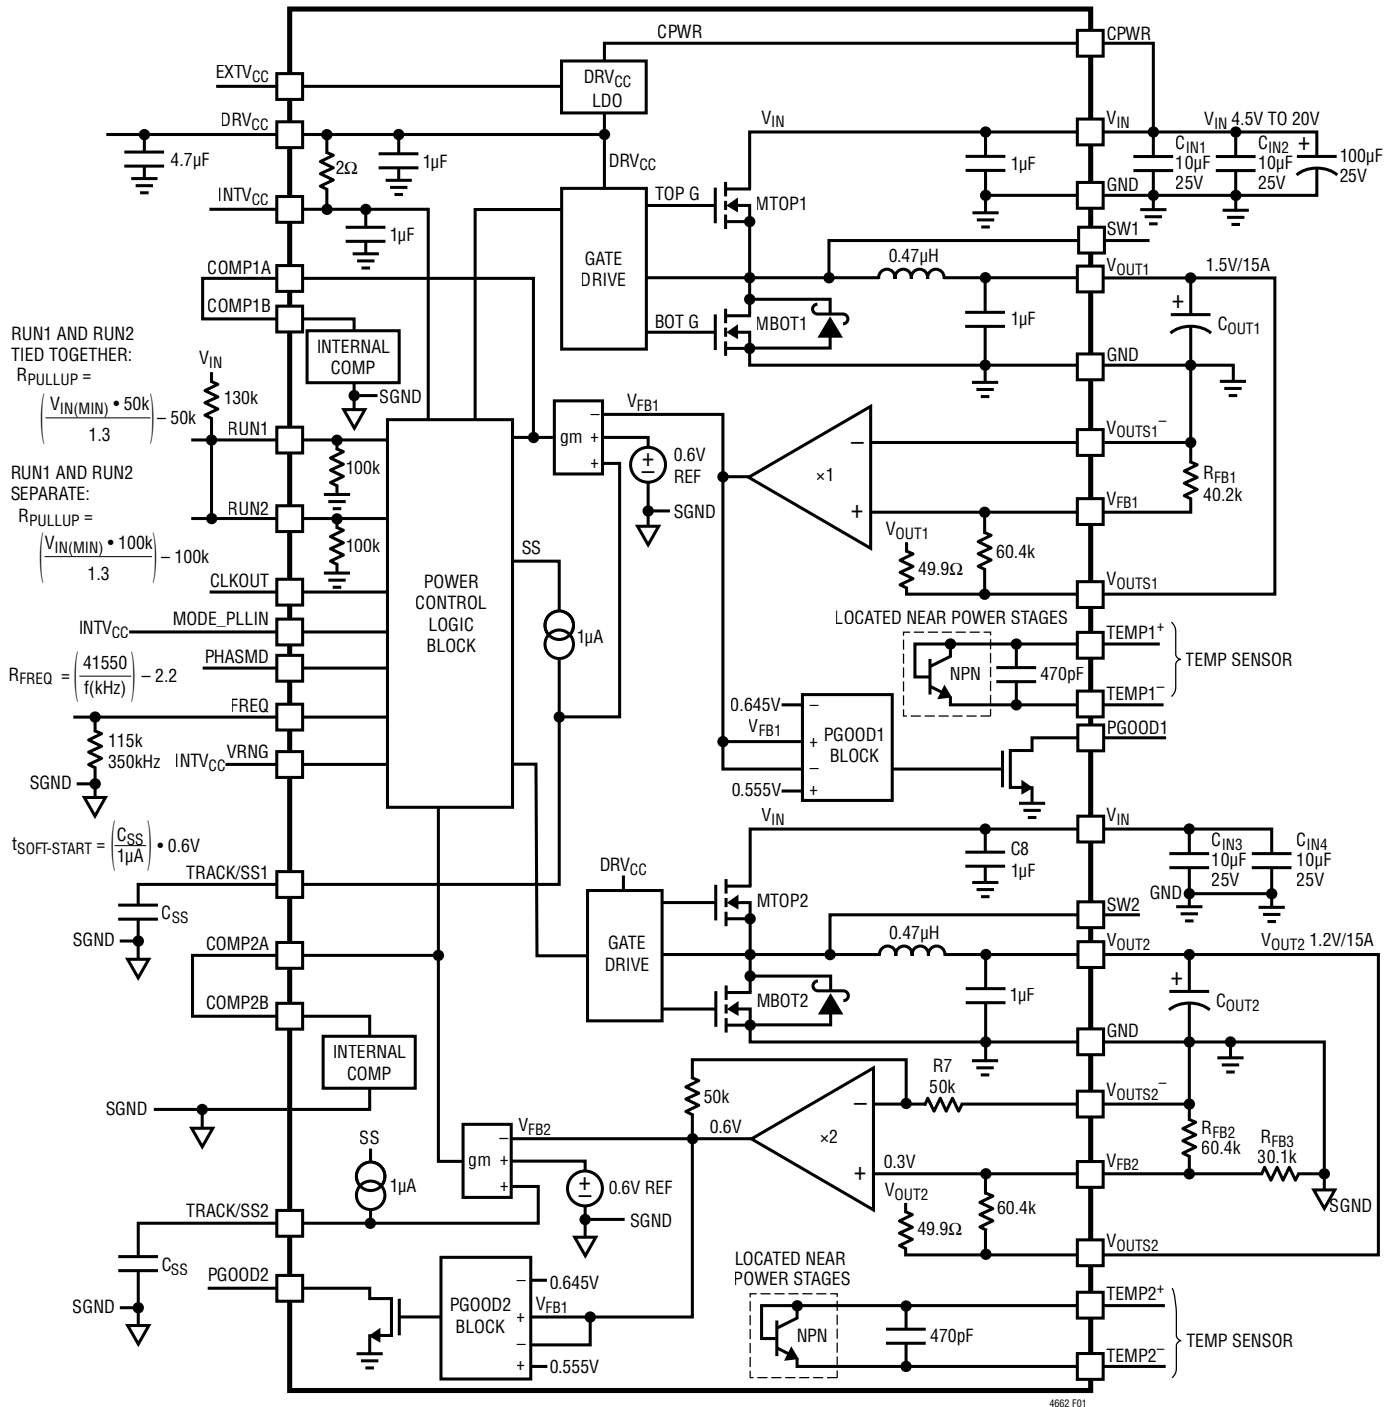

Figure 1. Simplified LTM4662 Block Diagram
**VFB1 (G4):** This pin is the + input to a unity gain differential amplifier. This pin is connected to VOUTS1 with a 60.4k precision resistor internal. Different output voltages can be programmed with an additional resistor between VFB1 and VOUTS1 pins. The differential amplifier is feeding back the divided down output voltage from a remote sense divider network to compare to the internal 0.6V reference. In 2-phase single output operation, tie the VFB1 pin to INTVCC. See Figure 1 and Applications Information section for details.
**VFB2 (E4):** This pin is the + input to a non-inverting gain of two amplifier utilizing three resistors in the feedback network to develop a remote sense divider network. This pin is connected to VOUTS2 with an internal 60.4k precision resistor. The VOUT2 voltage is divided down to 0.3V then gained back up to 0.6V to compare with the internal 0.6V reference. This technique provides for equivalent remote sensing on VOUT2. See Figure 1 and Applications Information section for details.
RUN pin will turn on the DRVCC, and turn on the INTVCC path for operation. See Figure 1 and Applications section.
## DECOUPLING REQUIREMENTS $T_A = 25^\circ\text{C}$ . Use Figure 1 configuration.
The PWM controller has an internal 0.6V reference voltage. As shown in Figure 1, a 60.4k internal feedback resistor connects between the  $V_{OUTS1}$  to  $V_{FB1}$  and  $V_{OUTS2}$  to  $V_{FB2}$ . It is very important that these pins be connected to their respective outputs for proper feedback regulation. Each channel has a 49.9 $\Omega$  resistor connected from  $V_{OUTS1}$  and  $V_{OUTS2}$  to  $V_{OUT1}$  and  $V_{OUT2}$ , respectively. This is used to protect the output if  $V_{OUTSn}$  is open or left unconnected. The  $V_{OUT1}$  output voltage will default to 0.6V with no feedback resistor on  $V_{FB1}$ . Adding a resistor  $R_{FB1}$  from  $V_{FB1}$  pin to  $V_{OUTS1-}$  programs the output voltage: